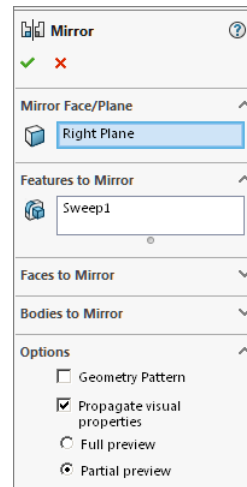

Fig. 62
Step 3. In the Mirror Property Manager click OK , Fig. 62.